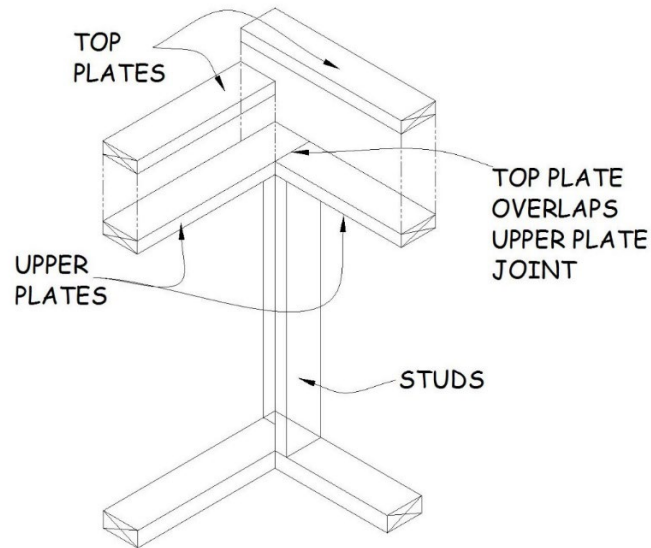

Figure 5-7. Interior Wall Top Plate Installation.
6. When nailing top plates, use three ¾" collated nails or 16d nails across 2x6 plates and two ¾" collated nails or 16d nails across 2x4 plates. Nail at each intersection of top plates and nail at each stud location. Note that the top plates at an intersection overlap the joints of the walls below (see Figure 5-7).